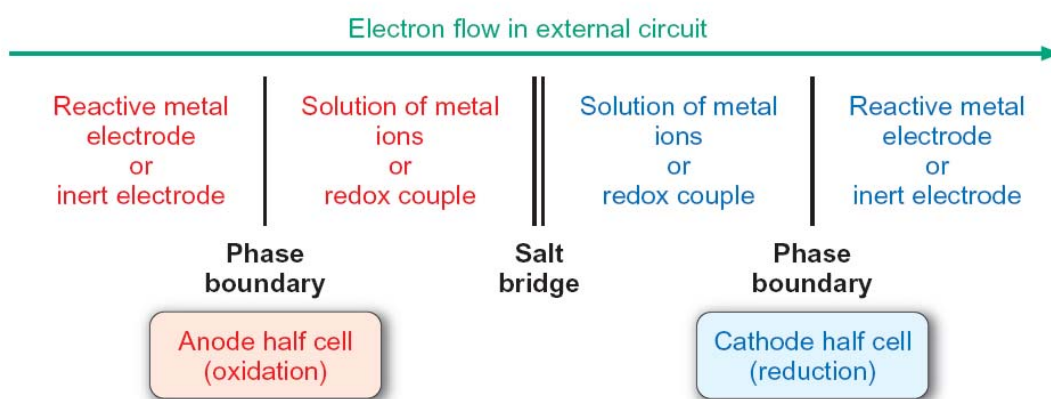

Figure 17.10 A generalized cell diagram to represent an electrochemical cell.
- A cell diagram is a convenient way of representing an electrochemical cell on paper (see Figure 17.10).